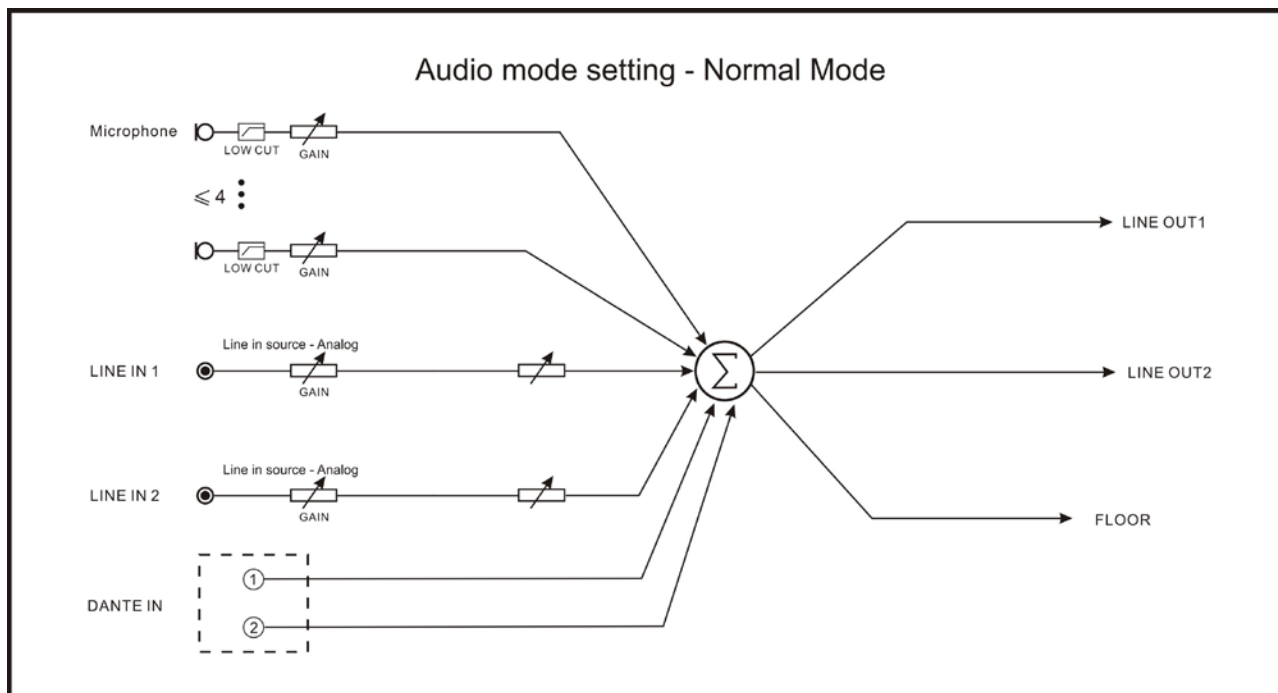

Figure 2.14 Audio mode setting – Normal Mode
- **Normal:** LineOut1/2 and floor audio output feature each the sum signal of Dante In + LineIn1 + LineIn2 + active microphones (Figure 2.14);